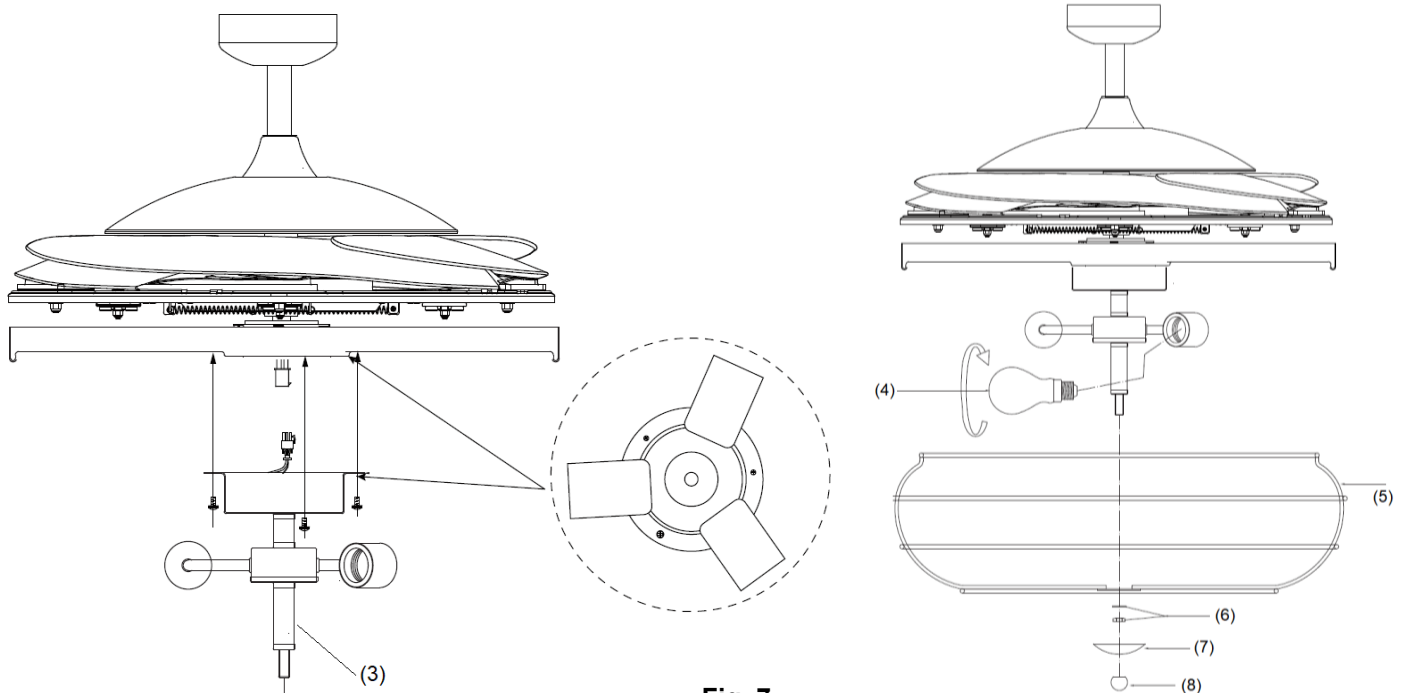

Fig. 7
4. Connect the quick connector to the lamp holder part (3). (Fig. 7)
5. Secure the lamp-holder part (3) to the light kit bracket by tightening the 3 screws. Do not over-tighten.
6. Install the globes (4) to the lamp holders. Do not exceed the maximum power rating.
7. Install the lamp shade followed by the washer and the nut (6). Tighten the nut (6).
8. Install the decorative cover (7) by tightening the nut (8).